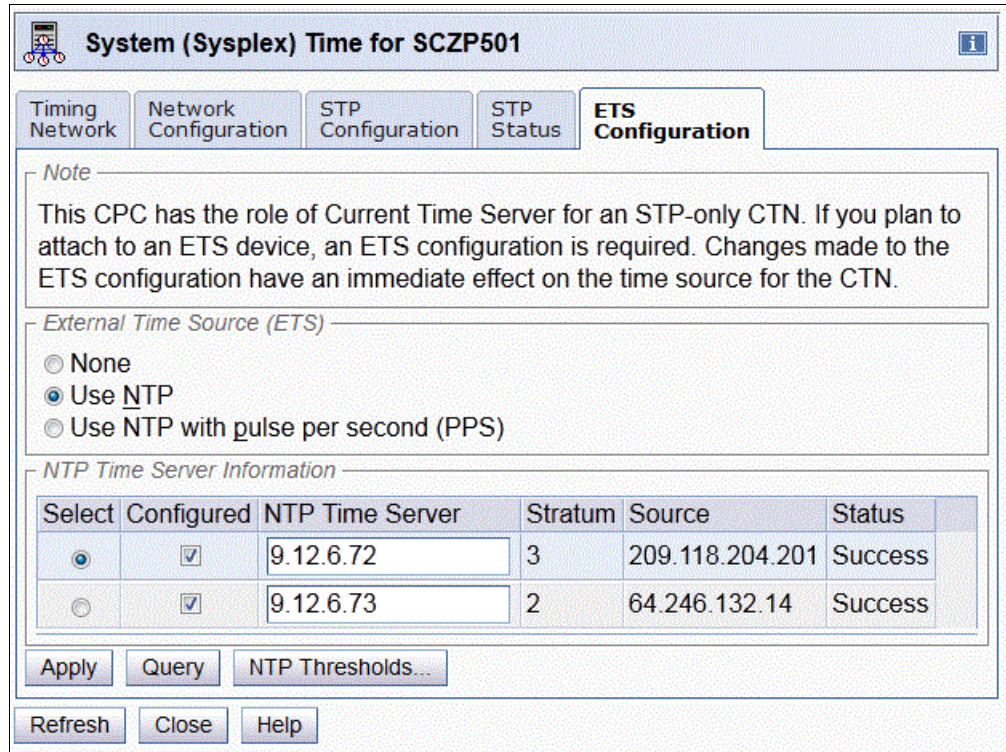

Figure 3-38 ETS configuration
1. In System (Sysplex) Time task, click the **ETS Configuration** tab (Figure 3-38) and click **NTP Thresholds**.